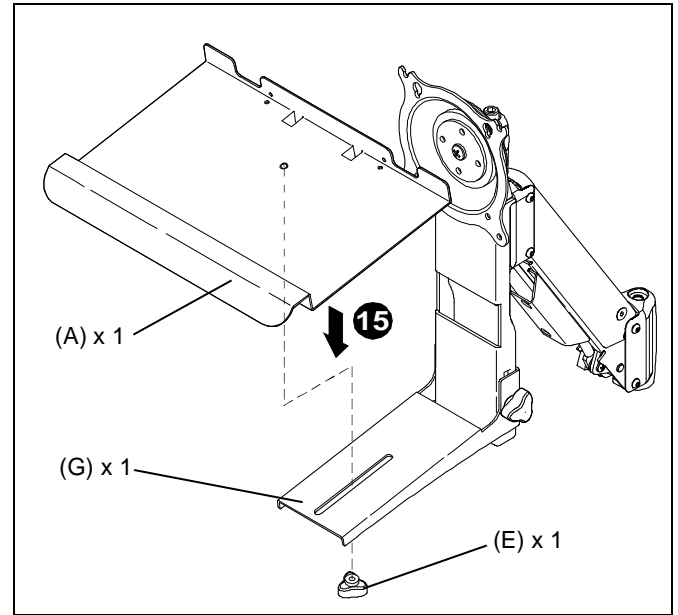

Figure 3
15. Orient tray (A) as shown. (See Figure 3)
16. Secure tray (A) to horizontal tray mounting bracket (G) using one knob (E). (See Figure 3)